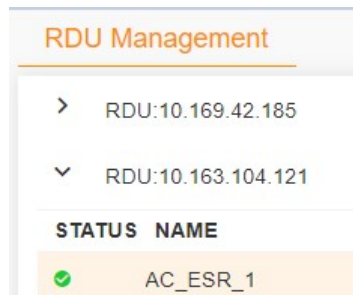

Figure 6-18 Editing the device
1. Click  on the right side of any device under the RDU and select  from the drop-down list (as shown in Figure 6-18).